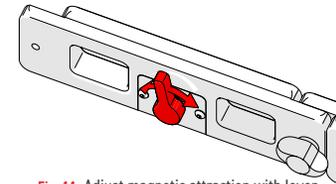

Fig. 11: Adjust magnetic attraction with lever
3.4. Optional Magnetic Arm (Fig. 11)